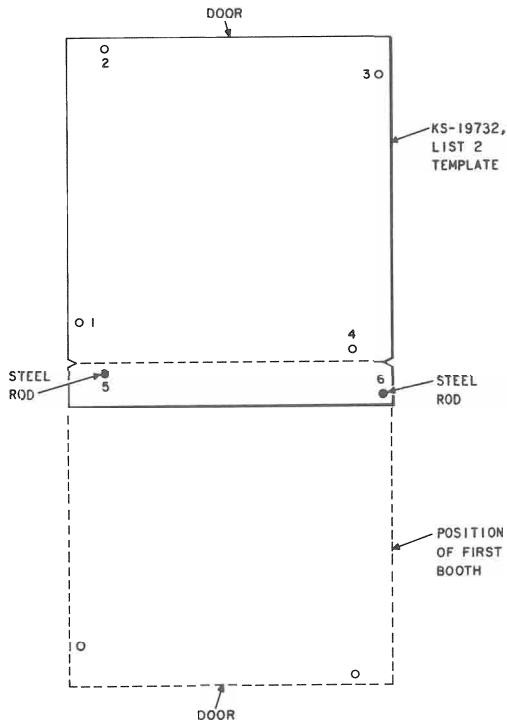

Fig. 18—Back-to-Back Layout for Drilling Mounting Holes
- (1) Perform steps outlined in 3.18 or 3.19 for the front line-up.
- (2) Move the template behind the first position as shown in Fig. 18 and align template holes 5 and 6 with previously drilled holes 2 and 3, respectively. Insert the two steel rods in these holes.
- (3) Drill 1/4-inch holes at positions 1, 2, 3, and 4 to a depth of approximately 1-1/4 inches.
- (4) If additional booth positions are required, move the template to the next position and perform operations in (2) and (3).